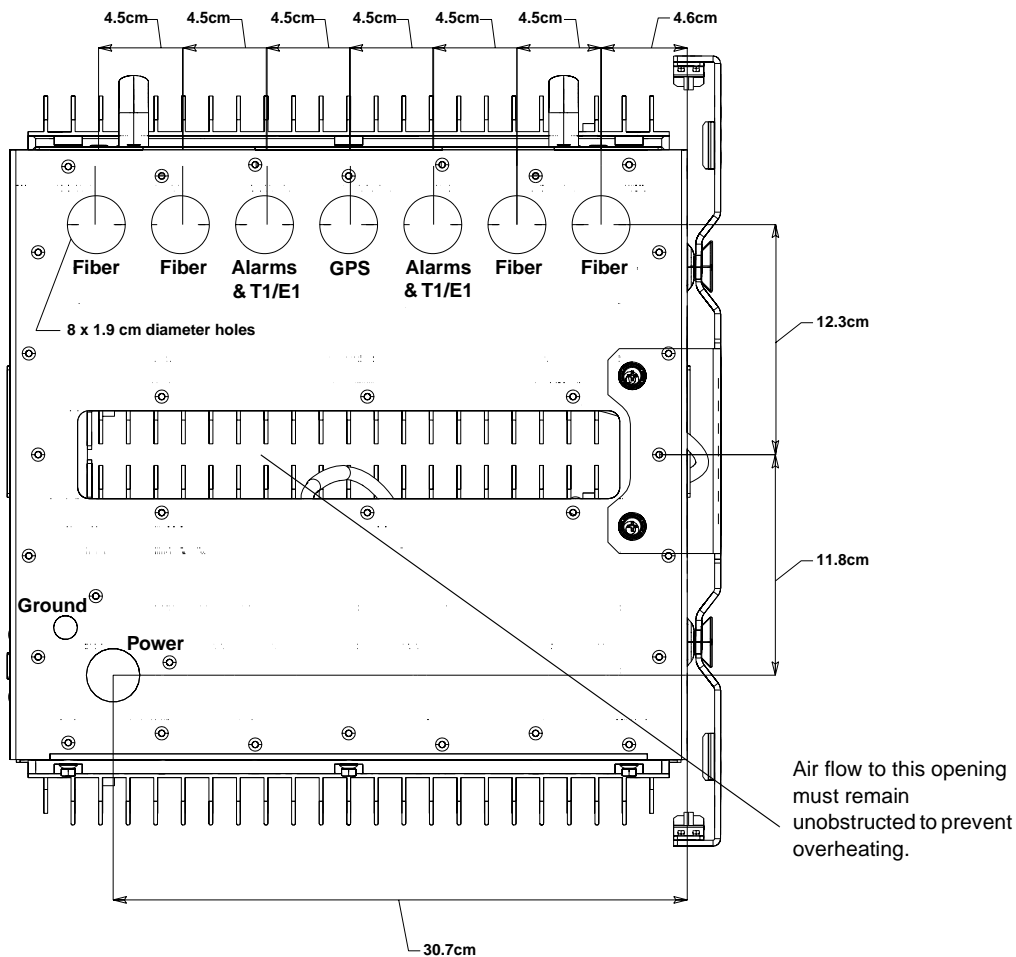

Figure 2-8 Main Unit Chassis Conduit Connections
8. Run conduit (3/4 inch (19 mm)) from the GPS receiver bracket to the raceway, and from the main unit mounting bracket to the raceway. For the correct conduit connection location on the main unit mounting bracket, see Figure 2-8 on page 2-10.